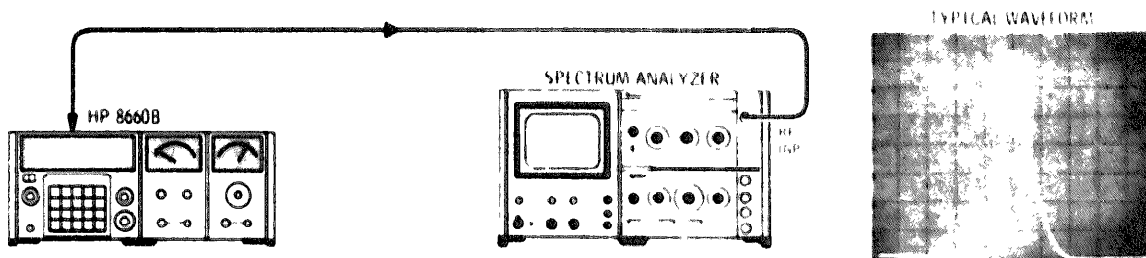

Figure 5-5. RF Level Checks Test Setup
d. Connect the Spectrum Analyzer RF INPUT to the 100 MHz output of the A4A4 assembly and tune the Spectrum Analyzer CENTER FREQUENCY to 100 MHz. The 100 MHz signal should be $> +10$ dBm (see Figure 5-5).
a. Connect the Spectrum Analyzer RF INPUT to the 500 MHz output connector on the A4A4 assembly and tune the analyzer to 500 MHz. Set the analyzer scan width to 50 MHz per division and other analyzer controls for a clear display (see Figure 5-5)